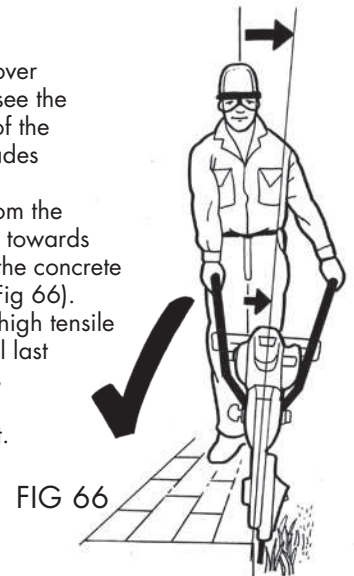

FIG 66
8. Even with the grass growing over the concrete and you cannot see the edge, you can feel the edge of the concrete with the spinning blades by slightly sideways tilting the handles of the edger away from the concrete so that the blades tilt towards the concrete and skim below the concrete edge which acts as a guide (Fig 66). Edger blades are made from high tensile hardened spring steel and will last a long time. Once the edge is established the second and subsequent times are very fast.
9. Sideways Tilting: Lower either left or right handle to achieve angle cutting (Fig 66 and 67).